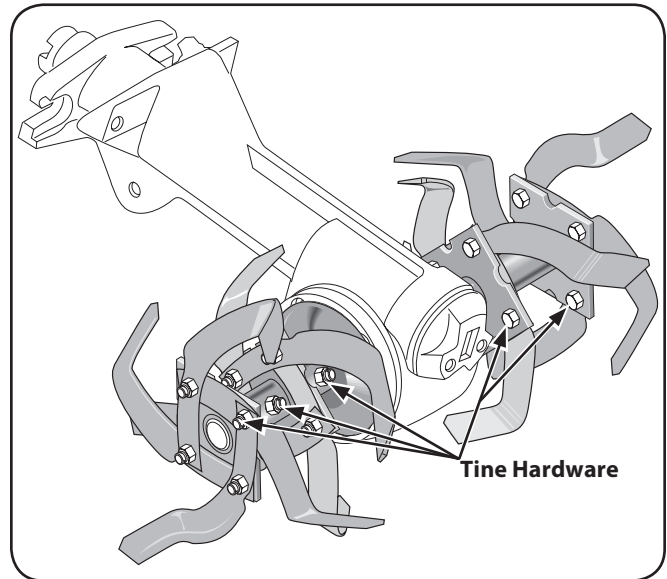

Figure 6-4
- Check the four bolts and nuts securing left and right tine holders to the tine shaft. See Figure 6-4.